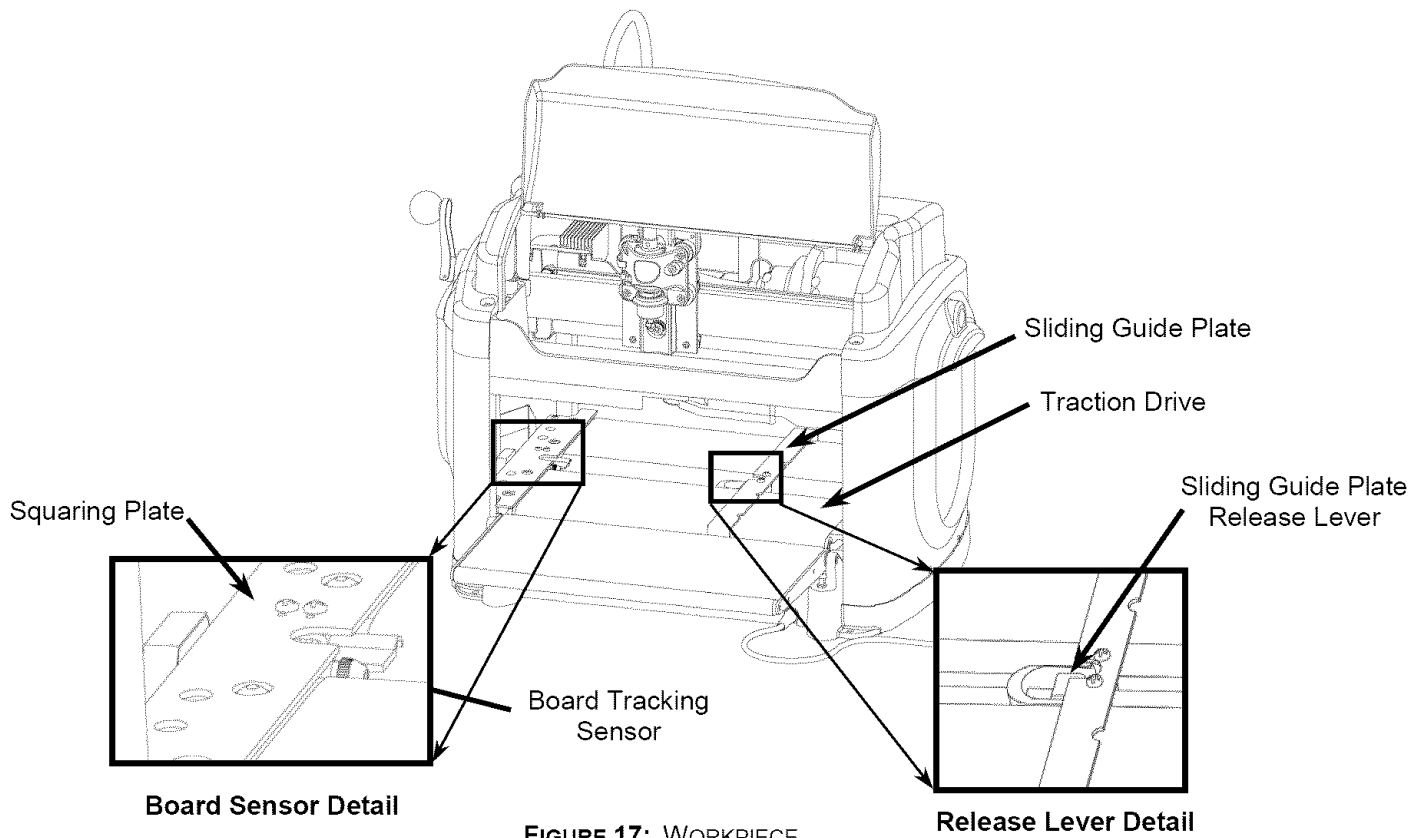

FIGURE 17: WORKPIECE INSERTION DETAILS
2. Check the bottom of the workpiece for features that will make it unusable in the machine. The bottom surface of the workpiece where it contacts the squaring plate must be flat and level for a width of at least 3/8 inches along the bottom edge to allow the Board Tracking Sensor to accurately calculate the position of the workpiece at all times (see Figure 17). If a workpiece does not have the required surface available for the sensor to follow (e.g., if it is already carved on the back), it will be necessary to fasten the workpiece to a sled or carrier jig to do further work on it. If a workpiece is slightly cupped or bowed, the workpiece should be inserted with the cup or bow facing down.